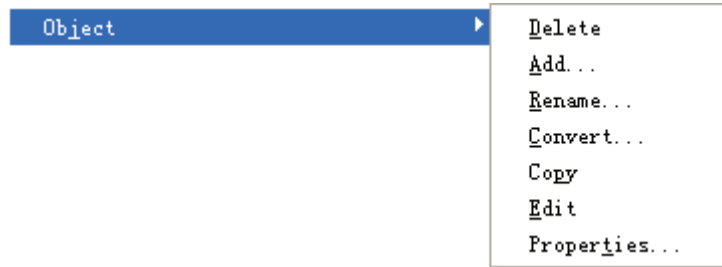

Figure 2-3-4 Object Sub-menu
- Project [P]/Object [J]: For the selected object do the operations of delete, add, rename, convert, copy, edit and properties, shown in figure 2-3-4.